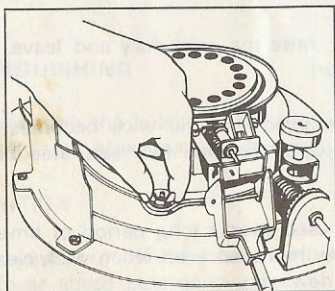

Fig. 21
- (6) Remove the four wing nuts holding the wick holder assembly and the three screws holding the shaft bracket and emergency shut-off device bracket (Fig. 21).